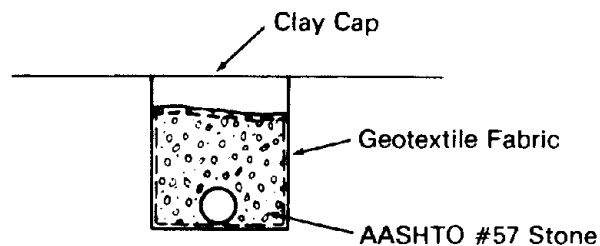

Figure 13. Geotextile fabric around drain gravel.
- g. Use geotextile fabric around drain gravel to prevent plugging of the underdrain system (figure 13).